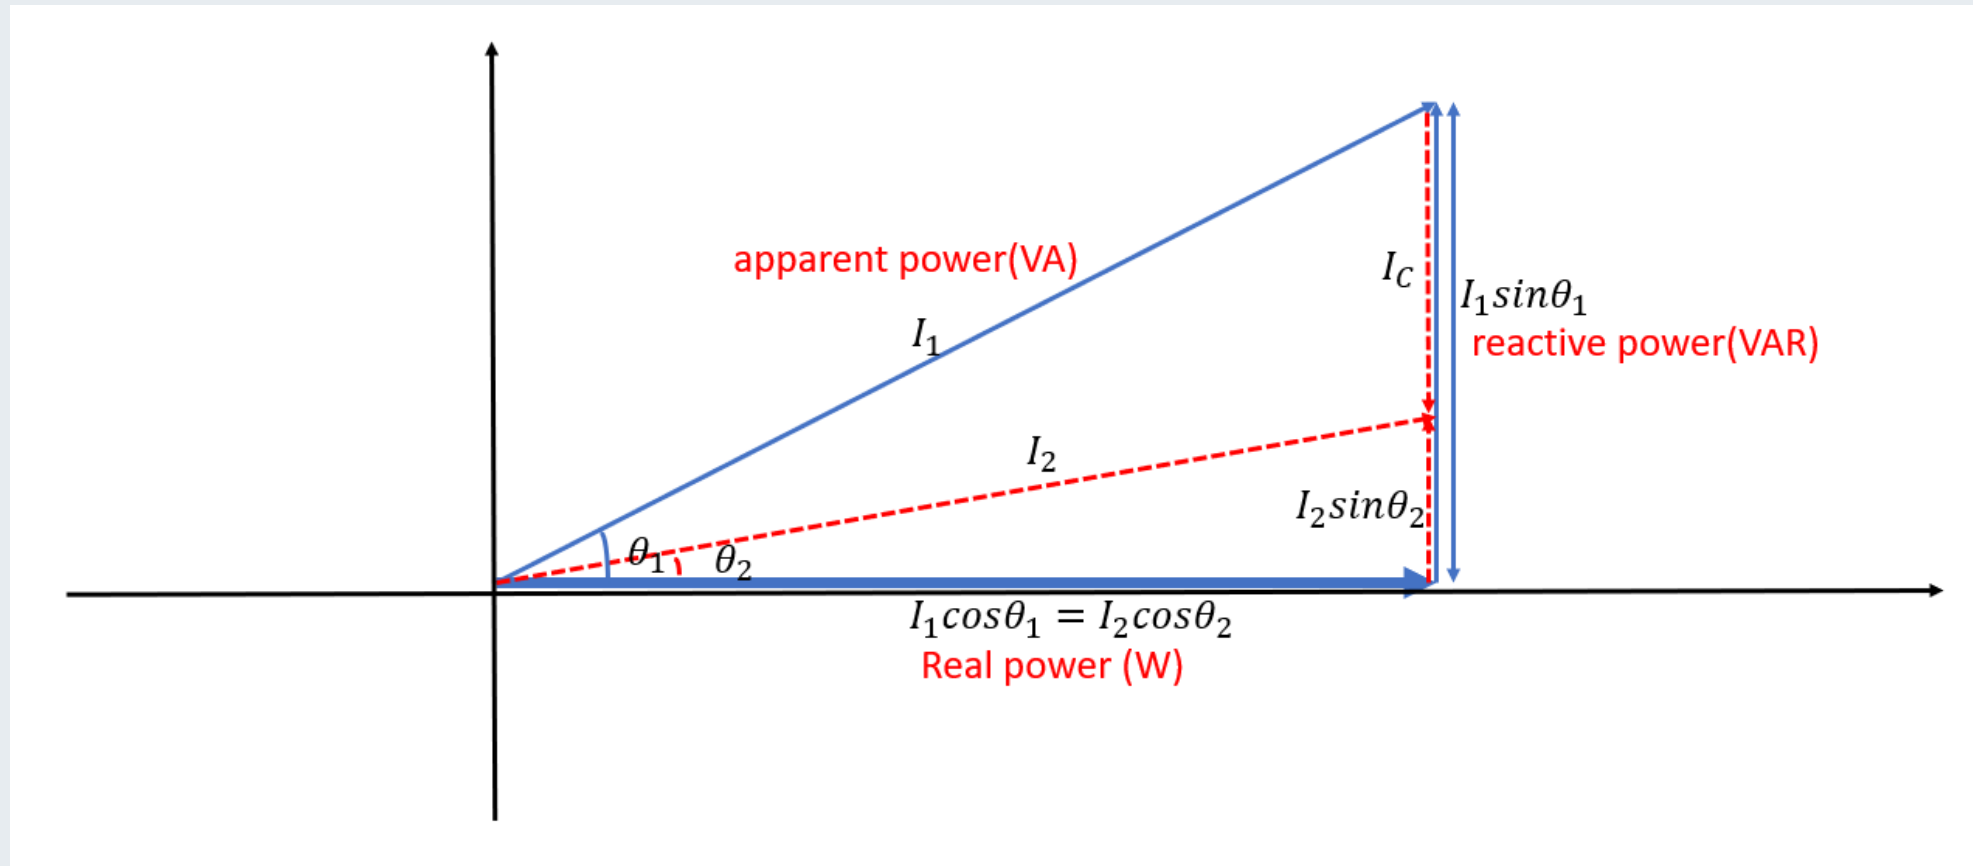

Figure 1. The relationship between real, reactive and apparent power. [Url:https://i.sstatic.net/tgrrk.png](https://i.sstatic.net/tgrrk.png)
- Enhancement of Power Factor, the power factor (PF) is the ratio of apparent power to true power. Excessive reactive power results in a poor power factor, which makes it inefficient because more apparent power is required to provide the same amount of real power.
- Reactive power compensation can raise the power factor and lower system losses, which is presented in Fig.1.
Where, P is real power, Q is reactive power, S is apparent power and Φ is the power factor, which is presented in Fig.1
- From Fig.1, the power factor is represented as: